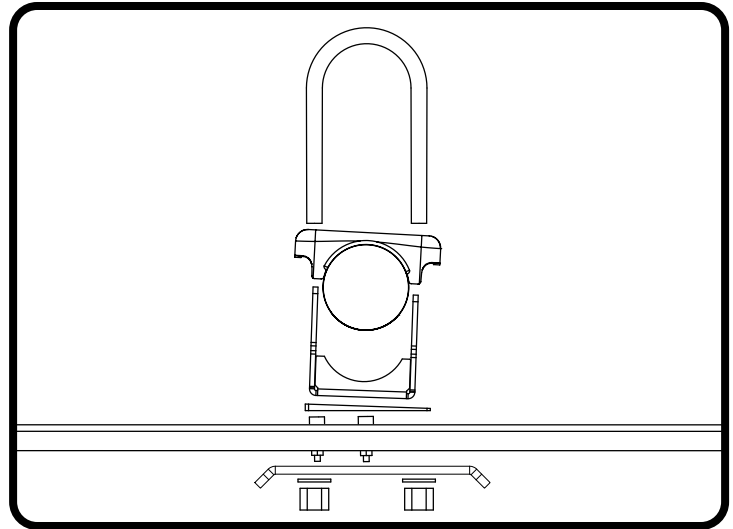

Figure 19
**28.** Slip the U-Bolts over the axle tube with the threads pointing down (Figure 19).